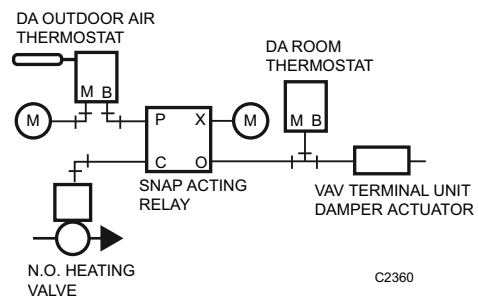

Fig. 36. Typical Application for Snap Acting Relay.
Figure 36 shows a snap acting relay application. Operation is similar to the switching relay. When the branchline pressure from the outdoor air thermostat equals or exceeds the preset switchover pressure, the relay connects the normally disconnected port (X) and blocks the normally connected port (O) to deliver main air to the normally open heating valve and provide positive close off. When the outdoor air thermostat pressure drops below the relay setpoint, the normally disconnected port (X) is blocked and the normally connected port (O) connects to the common port (C) to connect the valve actuator to the room thermostat.